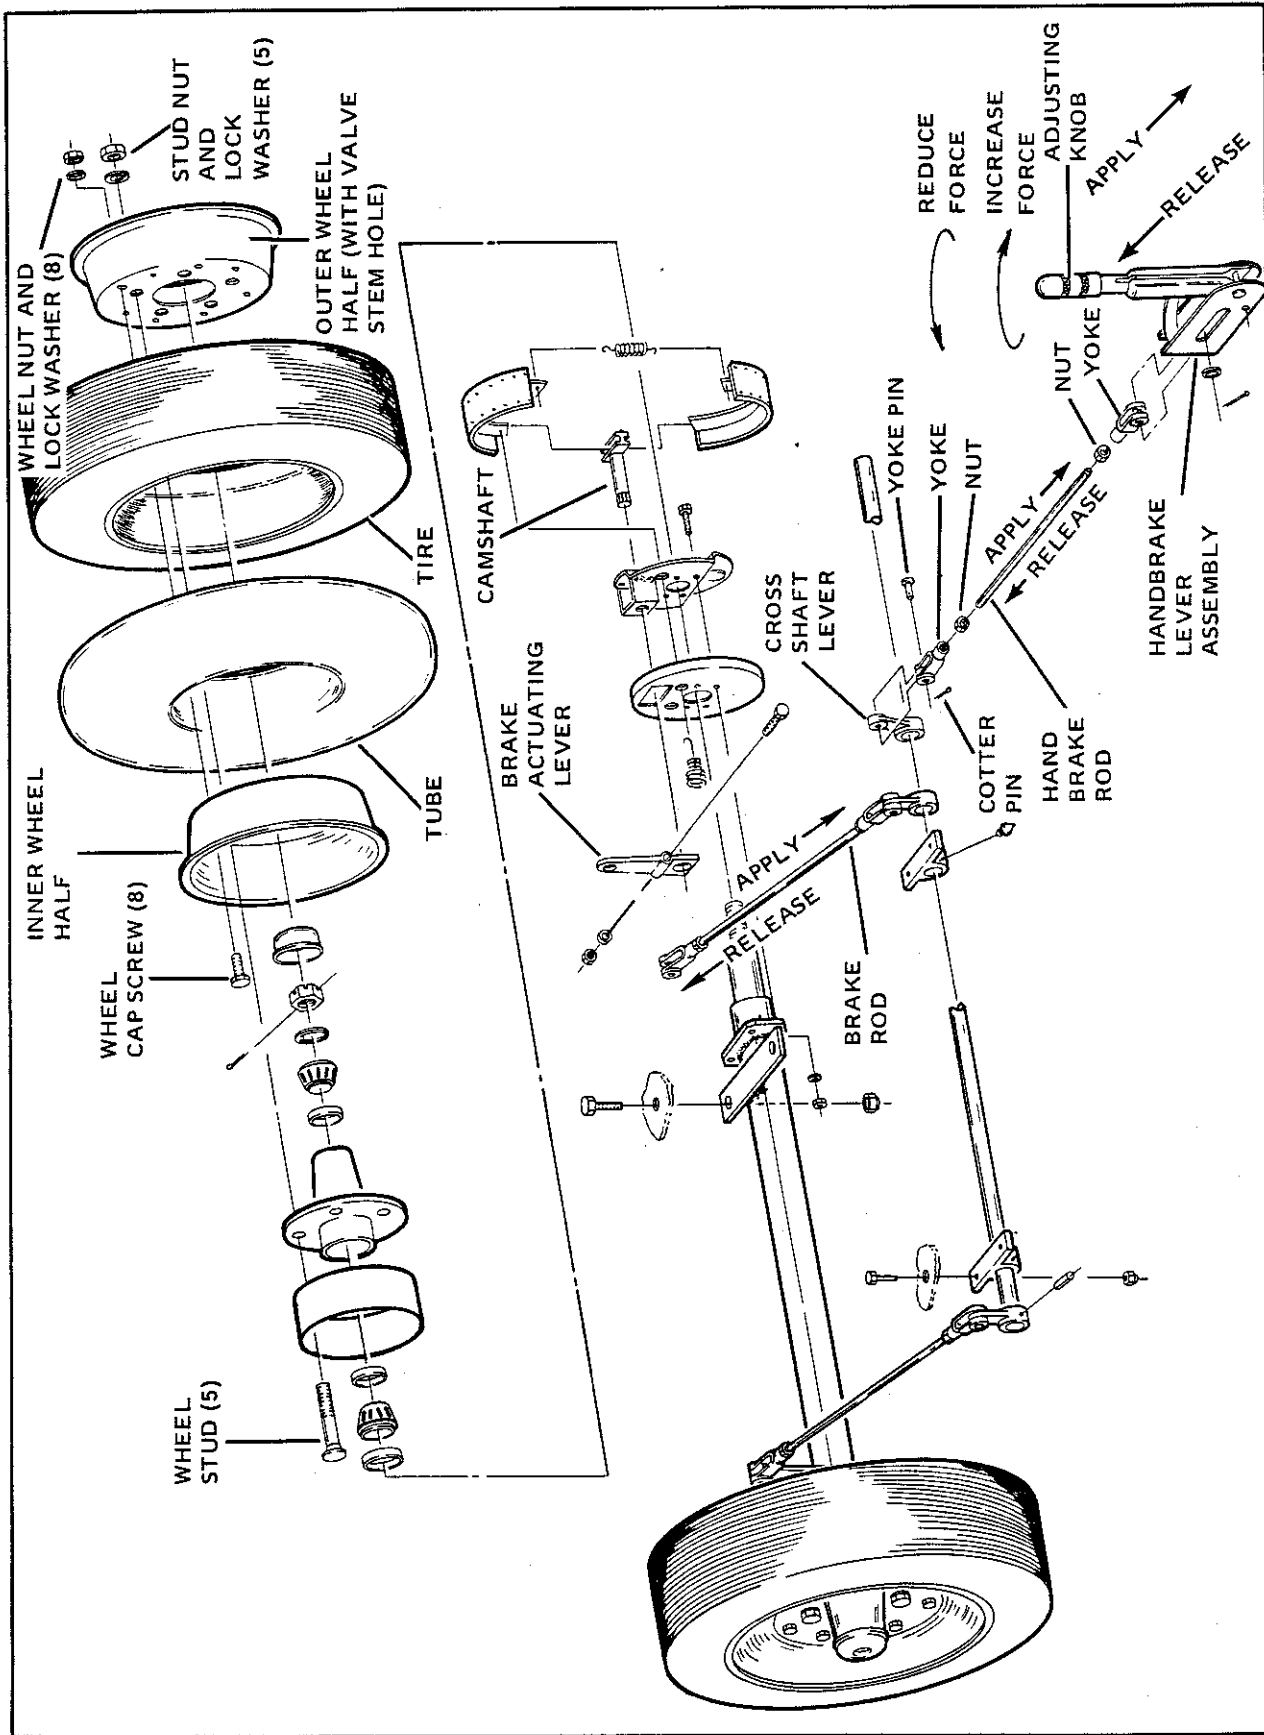

Figure 5-7. Brake Adjustment
- (1) Keep battery surfaces, terminals, and cables clean and dry. Check tightness of terminal connections. A light coating of grease or petroleum jelly on terminals will prevent oxidation.
- (2) Inspect battery cables for cut, frayed, or burned insulation. Replace defective cables.
- (3) Check electrolyte level in battery. Level should be above top of cell plates. Battery should be kept in a well charged condition to avoid freezing and to ensure ample cranking and ignition current.
a. Handbrake Lever Adjustment. Pull the handbrake lever toward towbar end of unit to apply brakes. If brakes cannot be applied with normal hand force, or lever goes all the way down and brakes do not apply, refer to figure 5-7 and adjust as follows:
- (1) Turn adjusting knob on handle counterclockwise to reduce amount of pressure required to apply brakes. Turn knob clockwise to increase pressure required.
- (2) If handbrake cannot be adjusted in this manner, effective stroke of brake rod may have to be shortened or lengthened. Remove cotter pin and yoke pin from yoke at cross shaft lever end of brake rod. Loosen nut that secures yoke on brake rod and turn yoke farther onto or off of rod, as required. Reinstall yoke pin connecting yoke to cross shaft lever. When adjusting is complete, install cotter pin in yoke pin and tighten nut against yoke.
- (1) Remove cotter pin and yoke pin attaching brake rod yoke to brake actuating lever (figure 5-7). Loosen yoke nut and screw yoke farther on or off rod, as necessary. Then, connect yoke to actuating lever with yoke pin and cotter pin and tighten rod nut.
- (1) Remove five wheel nuts and lock washers from wheel studs (see figure 5-7). Remove the wheel tire and tube from axle assembly.
- (2) Relieve air pressure from tube. Remove eight nuts, washers, and cap screws that secure the two wheel halves together. Separate wheel halves and remove tire and tube.
- (3) To assemble, place tube in tire and inflate with air enough to seat tube in tire. Assemble the two halves of wheel assembly on tire and tube, wheel half with valve stem hole is always outside half. Secure two wheel halves together with eight cap screws, lock washers and nuts. Install wheel, tire and tube assembly onto wheel studs and attach with five lock washers and nuts. Inflate tube to 15 psi (103.4 kPa).